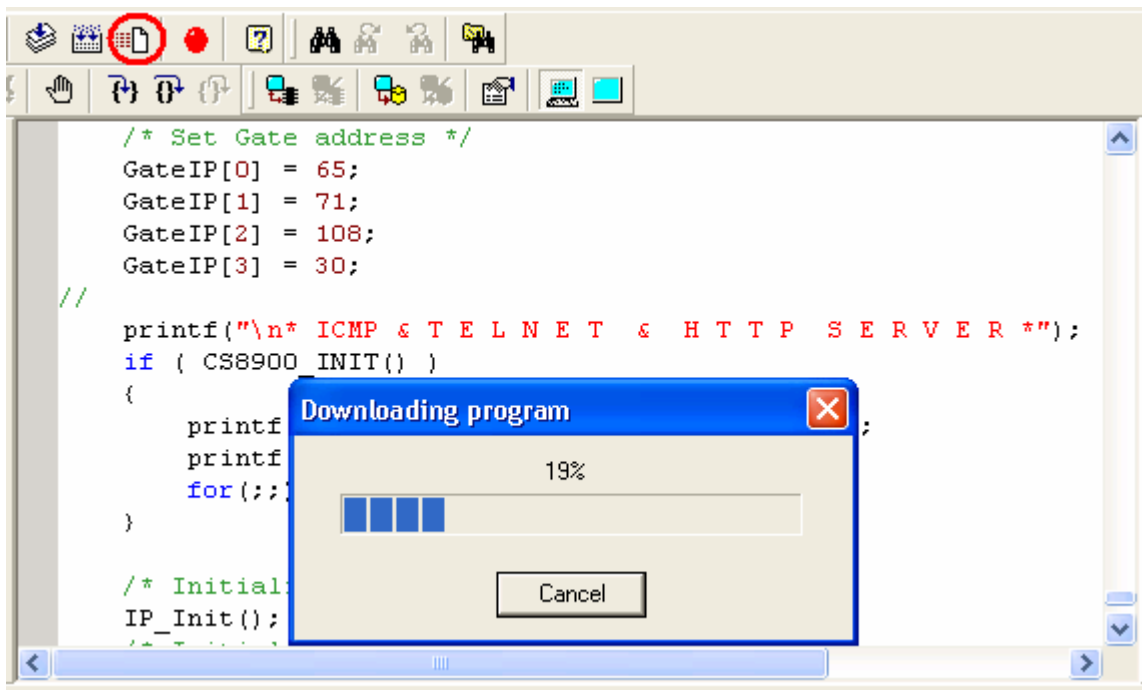

Figure 2
*Figure 2 shows DOWNLOAD PROCESS.*